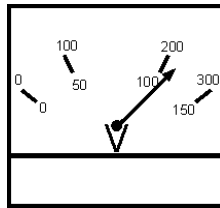
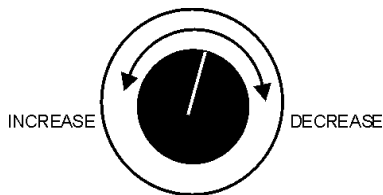

Figure 29. Voltage Meter (Volts)
Figure 30. Voltage Adjust Control Knob
10. The generator's voltage meter (Figure 29) displays the 120 VAC in **VOLTS**. If the voltage is not within the specified frequency tolerance, use the voltage adjustment control knob (Figure 30) to increase or decrease the desired voltage.
17. After the engine has been running for a few minutes, look at the status LED'S on the "MPEC" display (Figure 29) and check it for any abnormal conditions. If any abnormal conditions exist, shut down the engine and take corrective action to solve the problem.